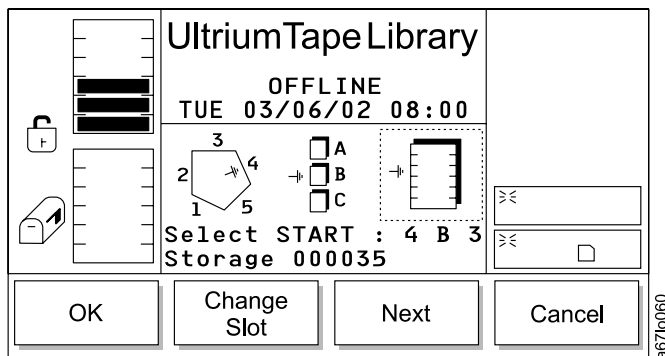

Figure 121. Change Slot Dialog
- If **Next** is selected, the current source parameter changes from magazine to slot and the Change Slot Dialog displays (see Figure 121).